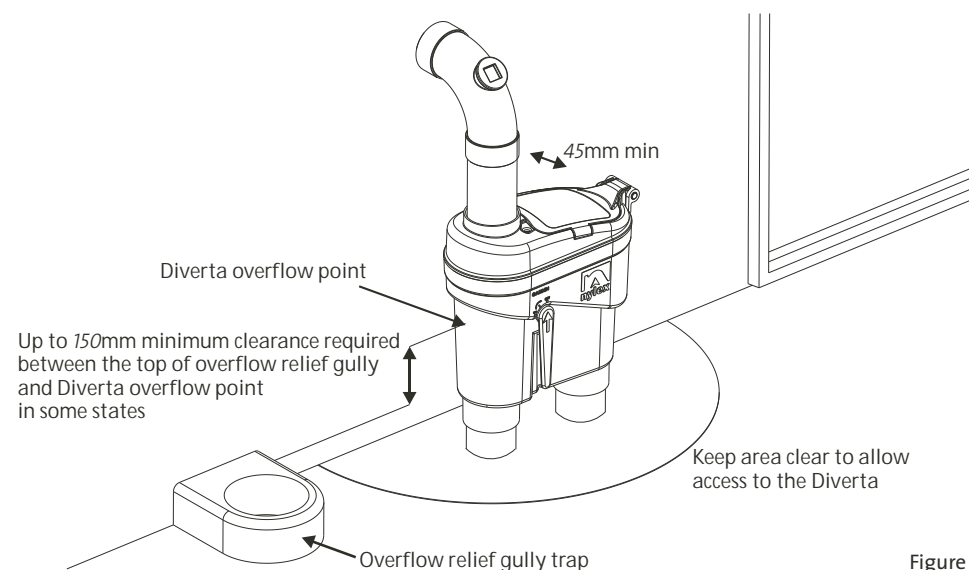

Figure 1
1. In some States the Greywater Diverta's™ failsafe overflow point must be installed higher than the plumbing system's overflow relief gully to protect against sewer surcharge from entering the unit (eg: up to 150mm). However, this is not required in all states and plumbers should seek the plumbing regulators advice. The failsafe overflow point is located half way up the unit (see Figure 1, below).
3. The Greywater Diverta™ must be installed (see Figure 1) clear of any structure that will inhibit free access by users:
8. To allow for total disassembly of the handle, install the diverter at least 45mm from the nearest wall / obstacle (see Figure 1 and Page 18).